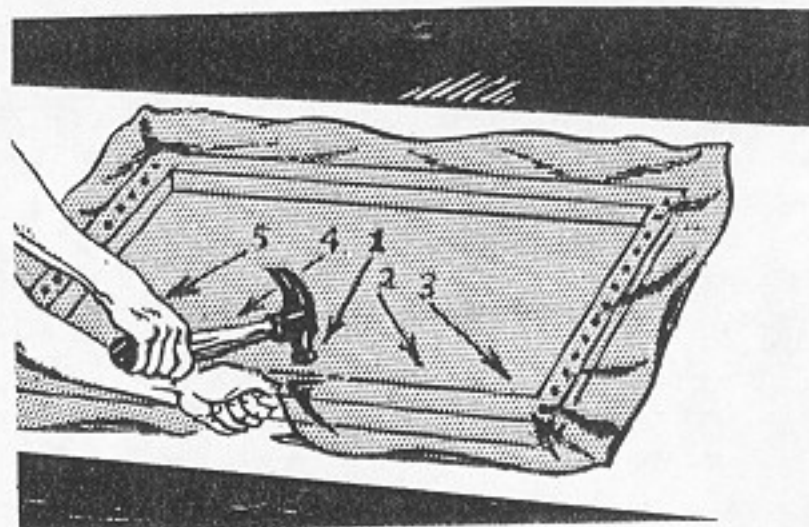

Fig. 33. Tack Silk Along One Side
4. Tack along one of the long sides of the frame, using the same procedure as in step 3. Place the first tack in the center of the side, then tack and stretch the silk to the ends, Fig. 33.